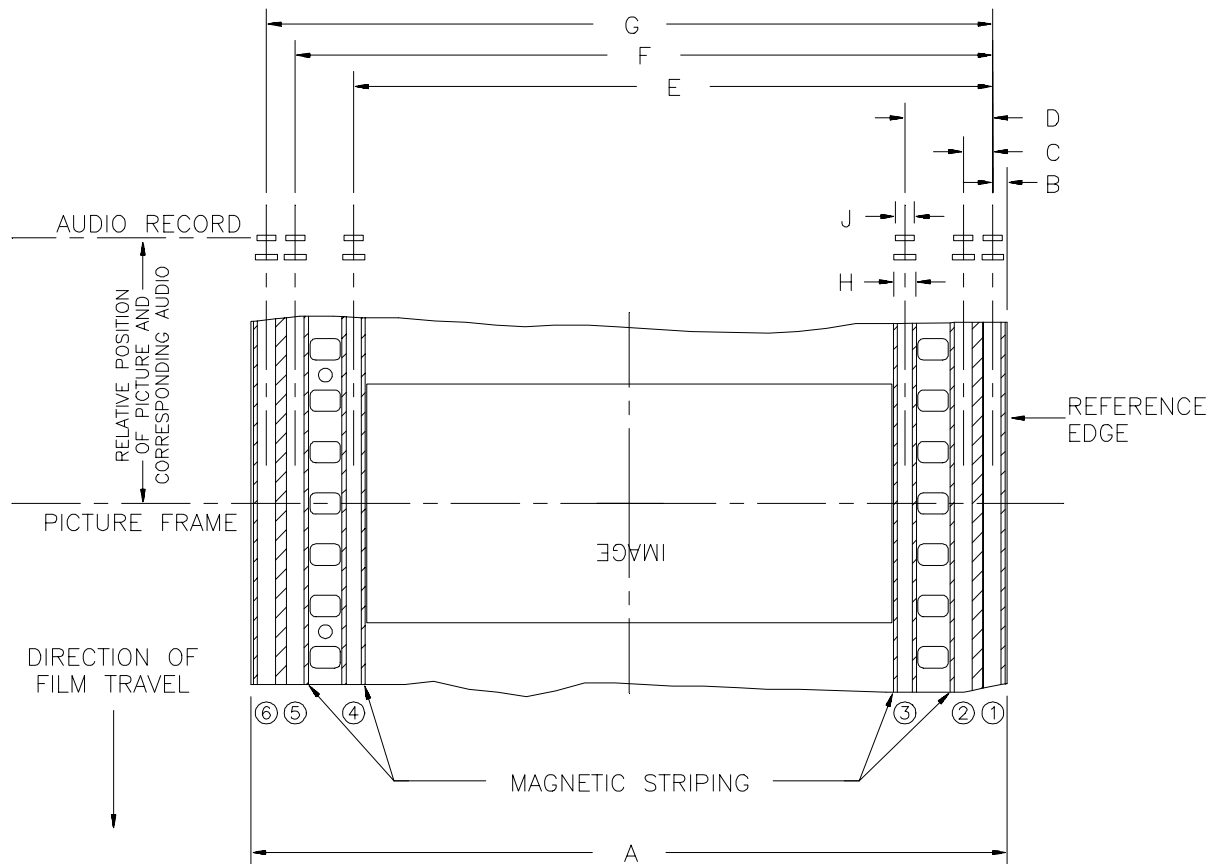

Figure 1 – Record location and width
2.1 The lateral location and width of the six magnetic audio records shall be as specified in figure 1 and table 1.
2.1.1 The records shall be referred to by number, as shown in figure 1, with record No. 1 nearest the reference edge. The left and right channel apply to a listener facing the screen. Record No. 1 shall be used for the left loudspeaker channel. Record No. 2 shall be used for the left center loudspeaker channel. Record No. 3 shall be used for the center loudspeaker channel. Record No. 4 shall be used for the right center loudspeaker channel. Record No. 5 shall be used for the right loudspeaker channel. Record No. 6 shall be used for the surround and auditorium loudspeakers.
2.3 With the direction of film travel as shown in figure 1, the magnetic striping shall be on the surface of the film facing the projector lens.